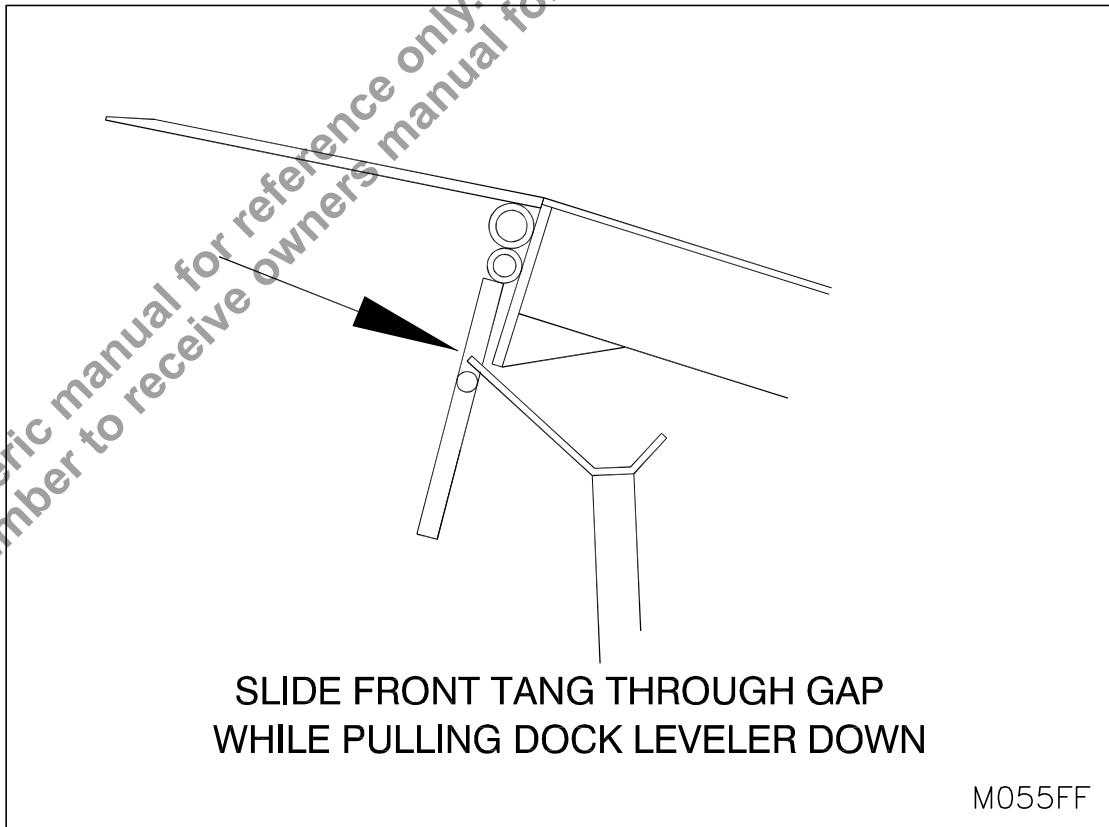

Figure 52: Supporting the Dock Leveler with Mechanical Fallsafe
3. While holding the maintenance stand, pull down on the lip while guiding the front tang of the stand between the headboard and mechanical fallsafe crossbar (See “Figure 52: Supporting the Dock Leveler with Mechanical Fallsafe” on page 43).